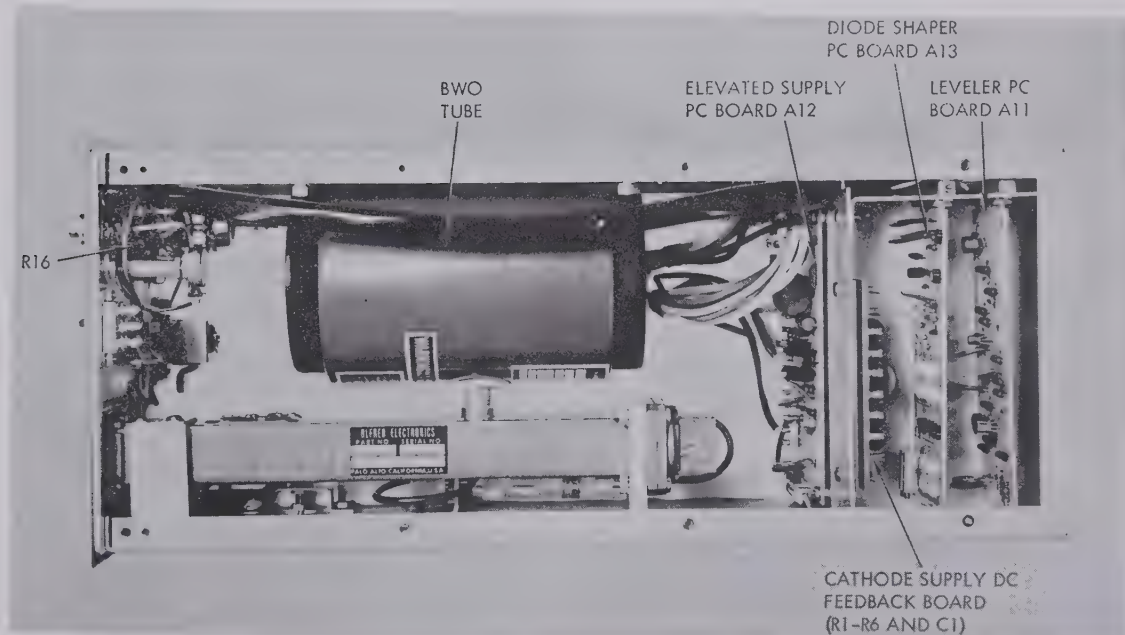

FIGURE 5-2. BOTTOM VIEW OF PLUG-IN UNIT CHASSIS (TYPICAL ALL UNITS)
5.3.2 ADJUSTMENT PROCEDURES. (All adjustments are shown in Figure 5-2 of the Model 650 Instruction Manual.)